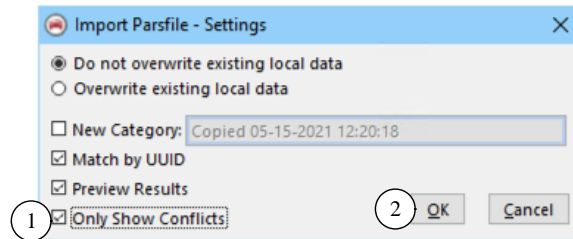

Figure 7. Import settings to handle duplicate datasets.
4. You will be prompted for settings to handle possible duplicate datasets (Figure 7). Check the boxes shown in the figure (1), then click the button **OK** (2).